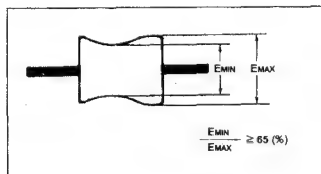

Fig. 45
- 2) Then, confirm that the minimum amplitude value (EMIN) is 65% of the maximum value (EMAX) or larger (Fig. 45).
- 3) Confirm that no large fluctuations occur on the waveform (Fig. 45).